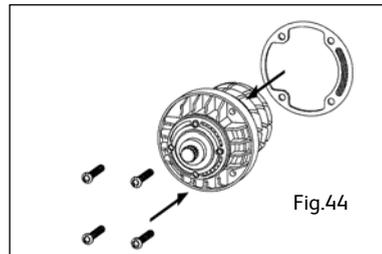

Fig.44
- Push the four new brass cartridge fixing screws through the face of the cartridge and attach the gasket to the screws ensuring that it is correctly positioned (Fig 44).